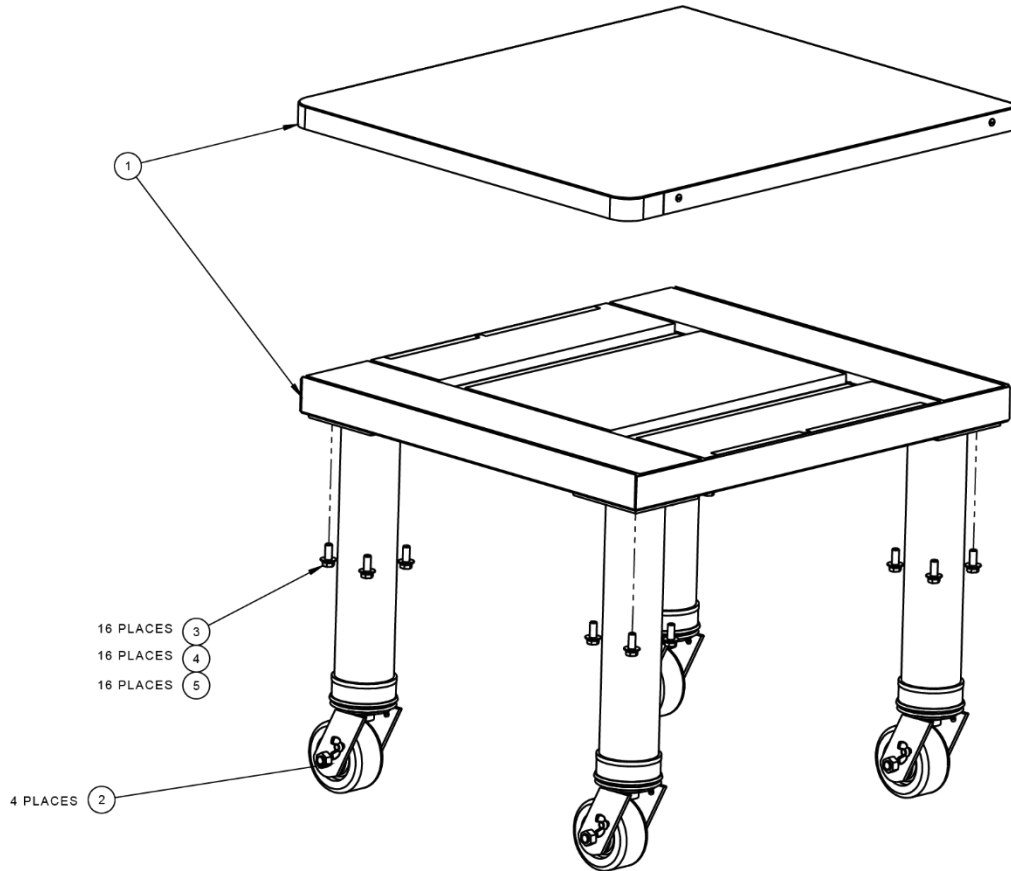

Figure 17. Oven Stand Parts
1. Locate the carton containing the oven base. Remove and inventory the contents. Refer to the correct parts lists on pages 17 to 18 and to Figure 17.
2. Lay Wldmt. Base (Item 1, Figure 17) upside down on the floor and remove the protective film from base. Attach the four Assy. Leg, Caster (Item 5) using 16 SCR, Cap HX HD 3/8"-16X1" NP (Item 10), 16 Washer, Flat SS 3/8" (Item 9), and 16 Washer, Lock Split 3/8" ZP (Item 8).